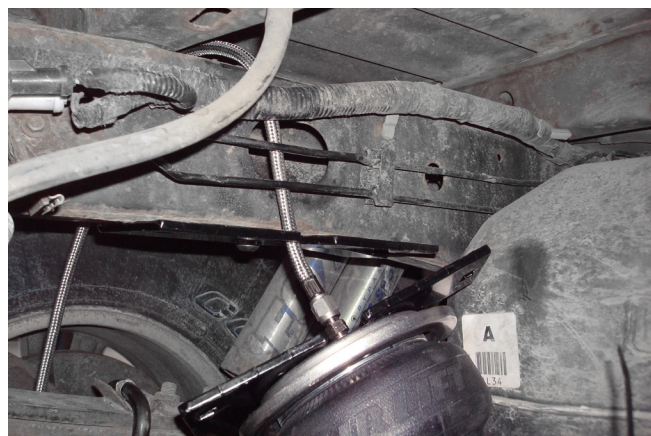

Fig. 18
1. Lower the axle assembly or raise the frame once again, just far enough so that the air spring assemblies can be put in place between the upper and lower bracket. While positioning the driver's (left) assembly into position above the axle, insert the hose in between the brake lines and wiring harness as shown in Fig. 18. Route the hose over the frame and to the back or side of the vehicle (see *Installing the Air Lines* section for reference). Do the same for the passenger's (right) side assembly.